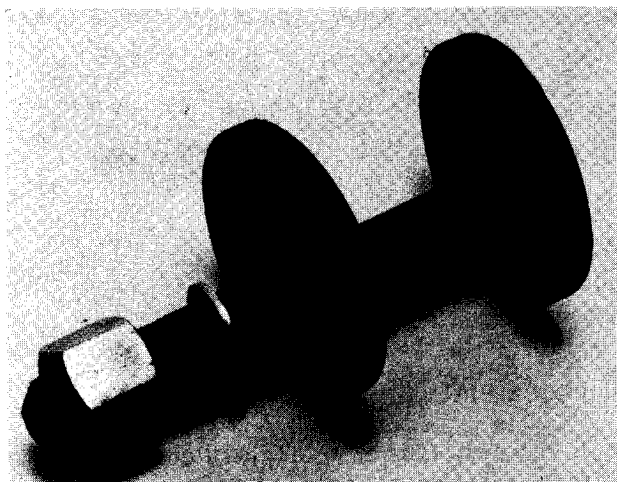

FIGURE 3
A free-spinning nut with a hardened steel flat washer is used on 1975 models (Figure 3). A new nut torque specification of 80-95 lbs. ft. hand torque must be used.
1. Place knuckle seal on Tool J-26485 (Figure 2). Insert tool as far as possible into knuckle and then drive it in with a hammer until it bottoms (Figure 3). Remove tool.